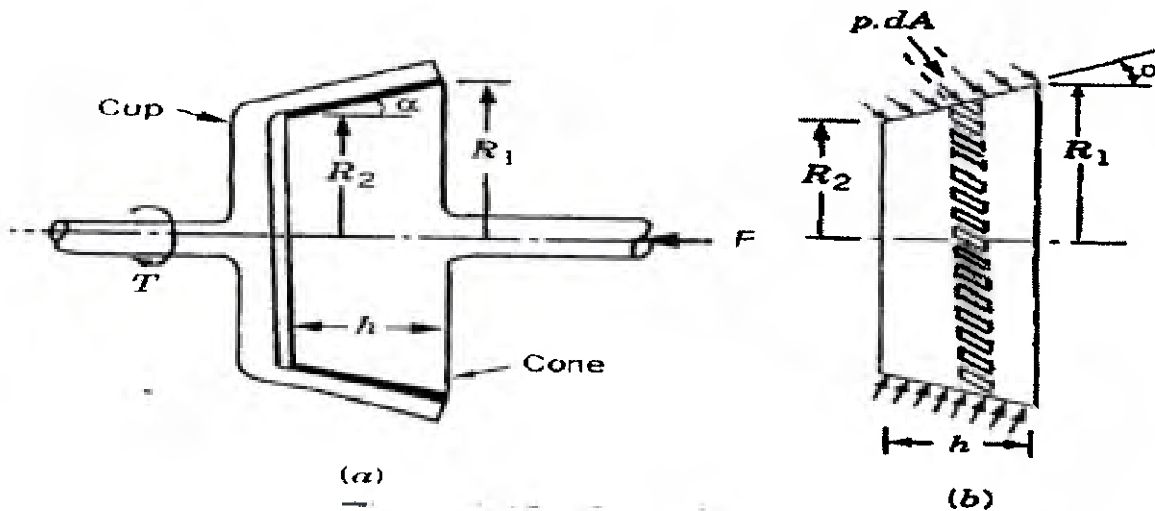

Figure 2
- Q4) The torque transmitted ( $T$ ) by a cone clutch, shown in Figure 2, under uniform pressure condition is given by 20